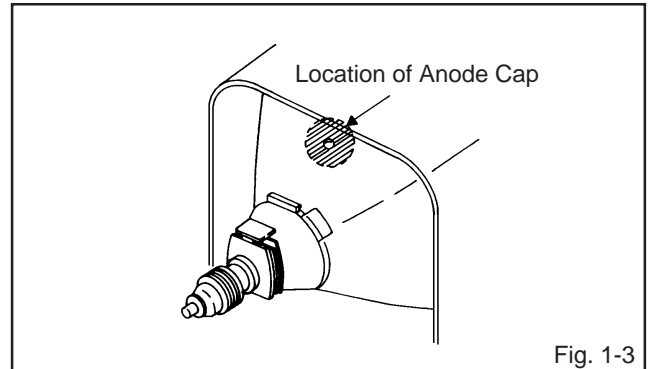

Fig. 1-3
1. Clean the spot where the cap was located with a small amount of alcohol. **(Refer to Fig. 1-3.)**